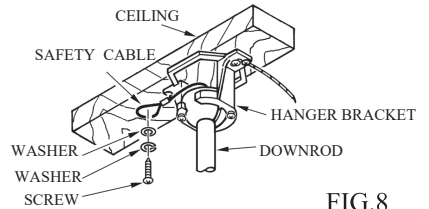

FIG.8
3. Install the safety cable into the building structure. (See Fig. 8)